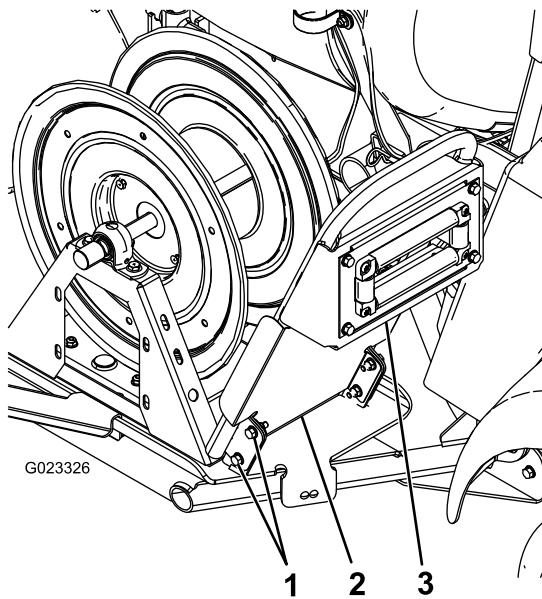

Figure 11
5. Loosely mount the handle to the swivel plate with 4 bolts (5/16 inch) (Figure 11).
- 6. Attach the mud shield and handle to the swivel plate using the bolts installed in step 5 and 4 flange nuts (5/16 inch) (Figure 11).